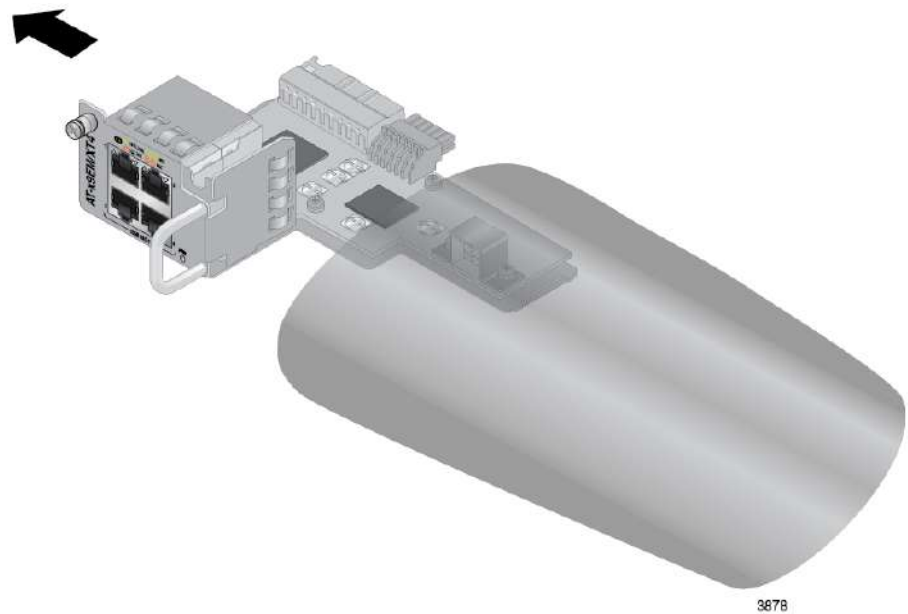

Figure 32. Removing the AT-x9EM/XT4 Card from the Anti-static Bag
7. Remove the AT-x9EM/XT4 Card from the anti-static bag. Refer to Figure 32.